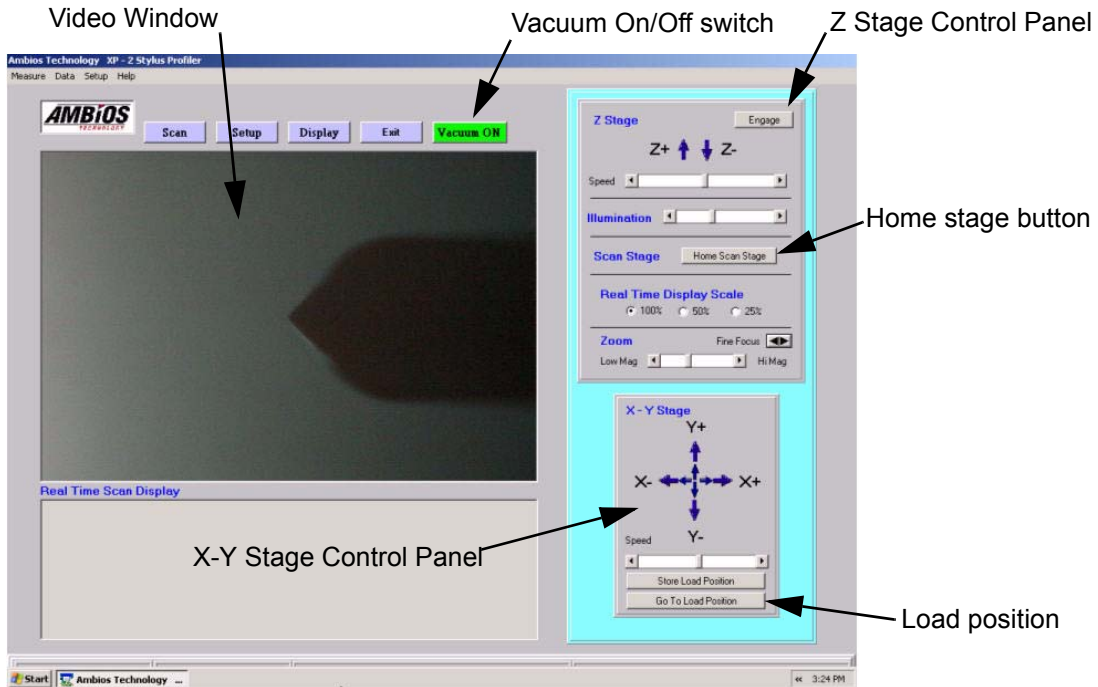
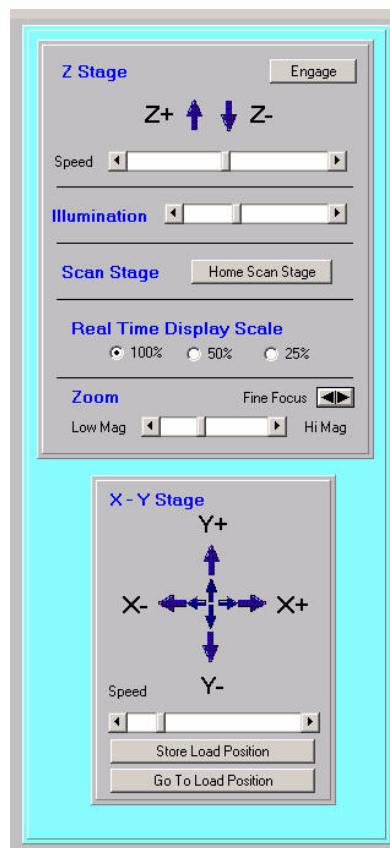

Figure 6.1: The *Main* software screen.
Figure 6.2: Control panel for the Z stage and X-Y stage. The arrow directions correspond with the video display frame of reference.
1. If the system is not in the *Home* position, use the mouse to **Left Click** on the *Go to Load Position* button located on the X-Y Stage control panel (see Figure 6.1).
- (Optional) Engage the vacuum switch with the mouse by **Left Click** the Vacuum control button located on the *Main* software screen above the video window, as shown in Figure 6.1. Users may find the vacuum unnecessary for their sample and can skip this step.
The Ambios Technology XP measurement head contains a high resolution video camera. Once the sample has been loaded and the stage moved beneath the measurement head, the sample is viewed in the video window of the *Main* software screen as shown in Figure 6.1 above. Using the Video window, the user positions the sample in an appropriate position to start a scan. The sample motion consists of two parts:
The Video window and Stage Control Panels are located on the Main Software screen as shown in Figure 6.1.
The X-Y stage motors operate in an open loop arrangement without encoders resulting in a relative position accuracy from sample setup to sample setup. Figure 6.2 shows the control panel for the X-Y stage. The X-Y Stage control consists of four arrows, representing the right and left X motion of the stage and the forward and back Y motion of the stage. Each arrow direction also has a small inner arrow that is 50% of the large arrow speed. The speed of the X-Y motion is controlled by a slider bar located directly below the arrow controls. The arrow directions correspond with the video display frame of reference.
- To adjust the stage speed of motion, **Left Click** the slider bar. Hold down the mouse button and move the mouse to the right to speed up the motion and to the left to slow down the motion. **Left Click** the slider bar arrows and holding down the button also slides the speed control bar in the corresponding direction (see Figure 6.2).
1. The stylus can be raised or lowered at any time by using the mouse. **Left Click** the up or down arrows located in the Z stage control panel (see Figure 6.2). The Z stage will move in the chosen direction as long as the mouse button is pushed down on the up/down arrow.
2. The speed of the stage can be adjusted using the slider bar located on the Z stage control panel directly below the up/down arrows (see Figure 6.2). To move the slider control, **Left Click** and hold the mouse cursor on the slider control and move the mouse to the right or left then release the mouse button. The right direction moves the stage faster and moving the slider to the left moves the stage slower.
There are two methods for engaging the stylus on the sample surface, using the *Engage* button located on the Z stage control panel (see Figure 6.2), and pressing the *Scan* button in the *Main* software screen above the video window (see Figure 6.1).